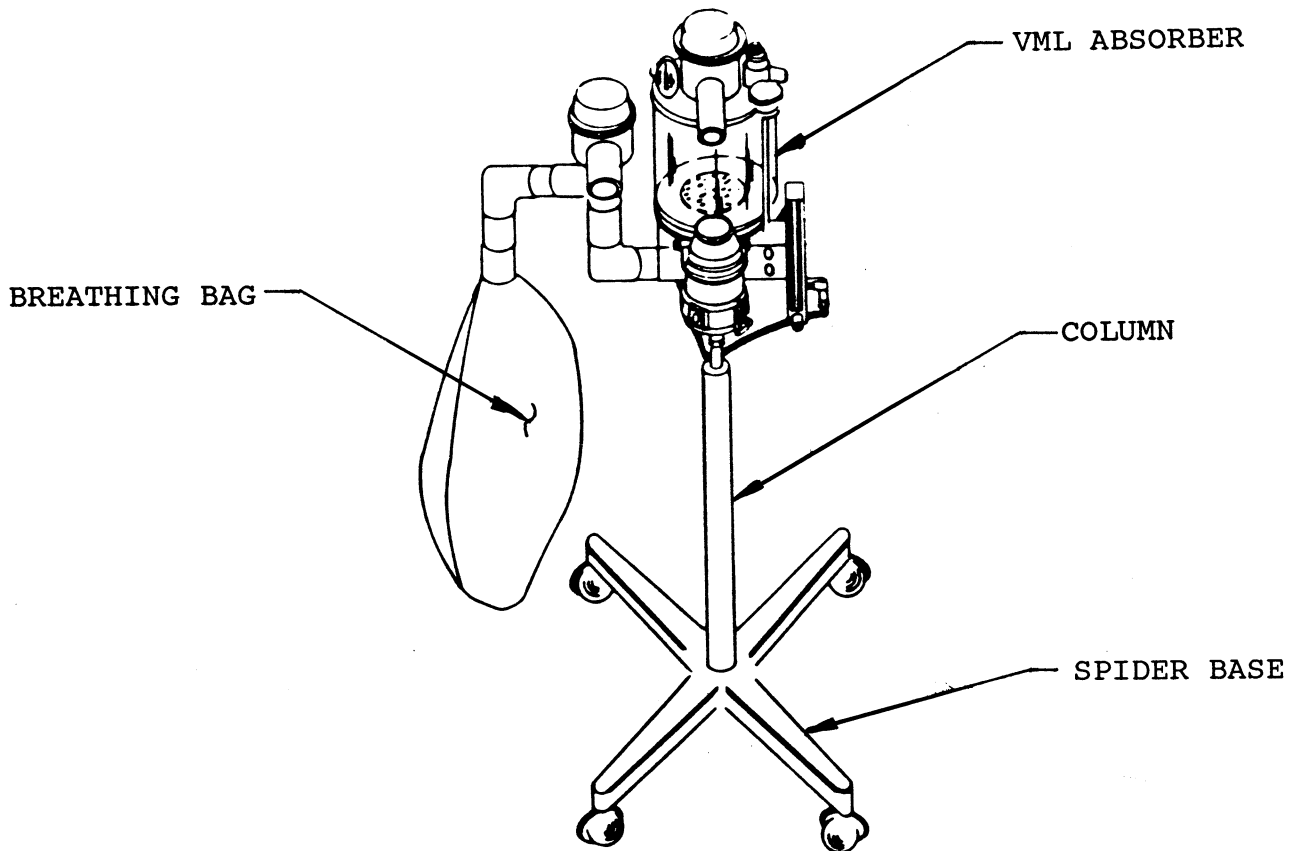

Figure 2 - VML Basic Assembly
10. Connect the breathing bag to the breathing bag mount (refer to Figures 2, 10).